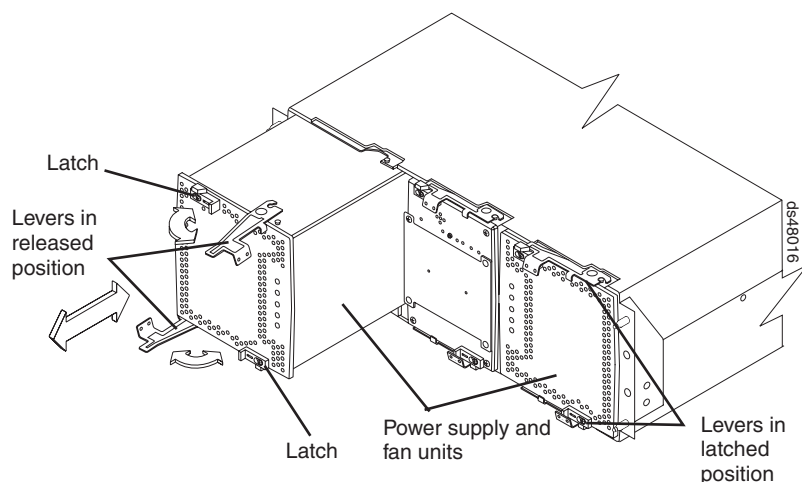

Figure 94. Removing a power supply and fan unit from the DS4800
9. Unlatch the top and bottom levers on the failed power supply and fan unit. Rotate both levers out simultaneously and remove the failed power supply and fan unit. (Figure 94 shows a power supply and fan unit sliding from the storage subsystem chassis.)